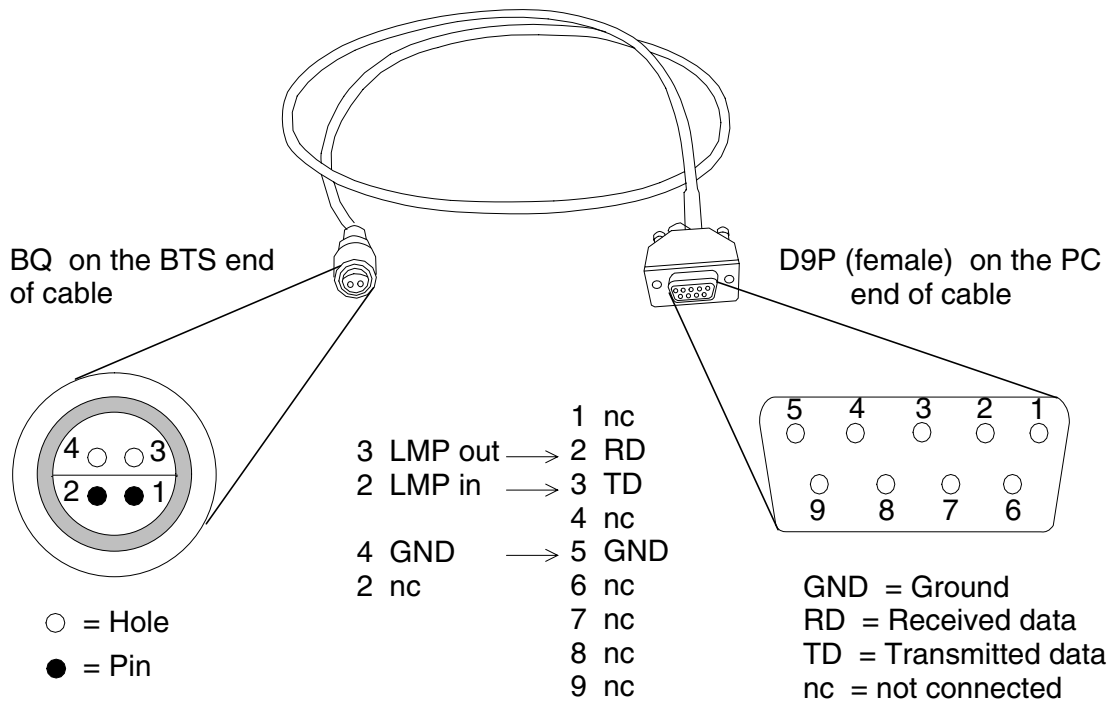

Figure 3. LMP cable and connectors
- Figure 3. LMP cable and connectors **21**